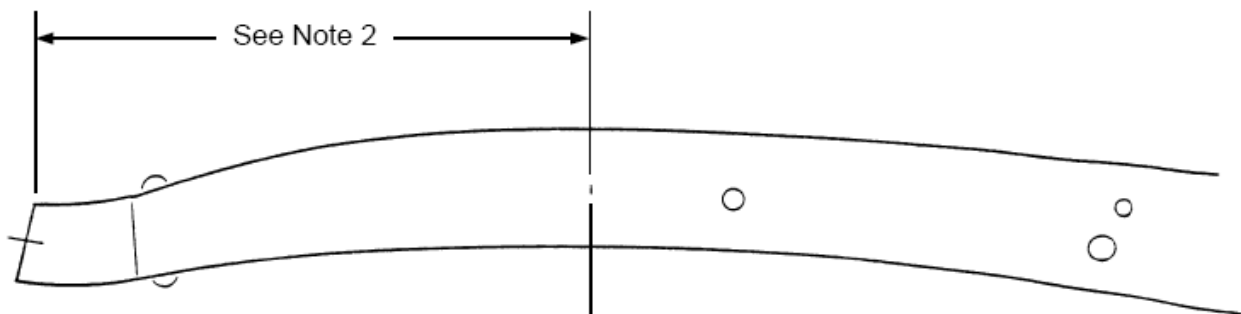

Figure 1-Boxing the Frame
4. The front section of the frame should be boxed at this point, from approximately 6" forward of the axle centerline to a minimum of 18" back from the spindle centerline. For overall frame strength, it is recommended that the frame be boxed to the center x-member. Use 1/8" to 3/16" steel. Box the frame to an overall rail width of 2-3/8", including the boxing plates in the area of the new crossmember. Next, scribe a line around the frame rails at the spindle centerline as shown in **Figure 1**.